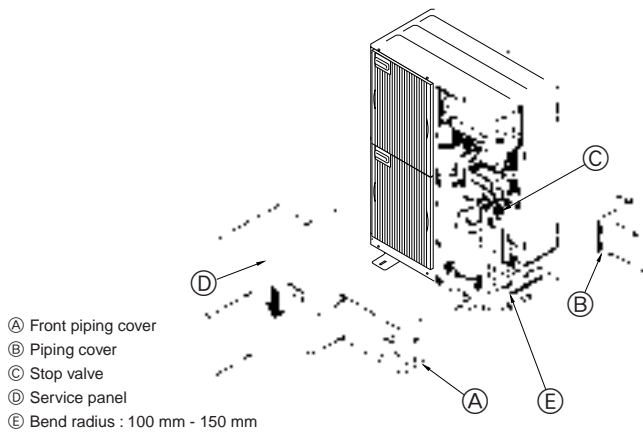

Fig. 4-4
4.3. Refrigerant piping (Fig. 4-4)